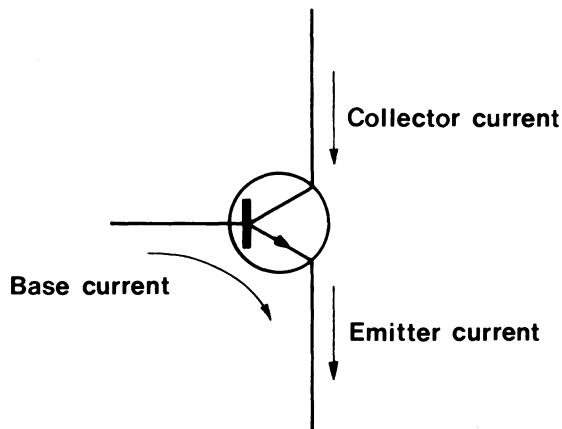

FIG. 1.14
5. Put an ammeter in the circuit at point Z and measure the current. You should observe that under all conditions the collector current and emitter current are always roughly equal. The emitter current should, in fact, be slightly larger since the base current as well as the collector current flows through the emitter (Fig. 1.14).